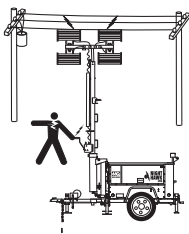

**Figure 15. Ignition Key Switch (Lombardini/Deutz Engine)**
2. Insert the ignition key into the ignition key switch (Figure 15). Turn the ignition key clockwise one click to the ON position. The preheat indicator will light. Wait for this indicator lamp to go OFF. When the indicator lamp goes OFF, the glow plugs have been preheated and the engine can now be started.